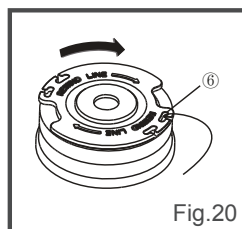

Fig. 20
- Place the end of the line in one parking slot (⑥) located on the top cover of the spool, leaving some of the line out (Fig. 20).